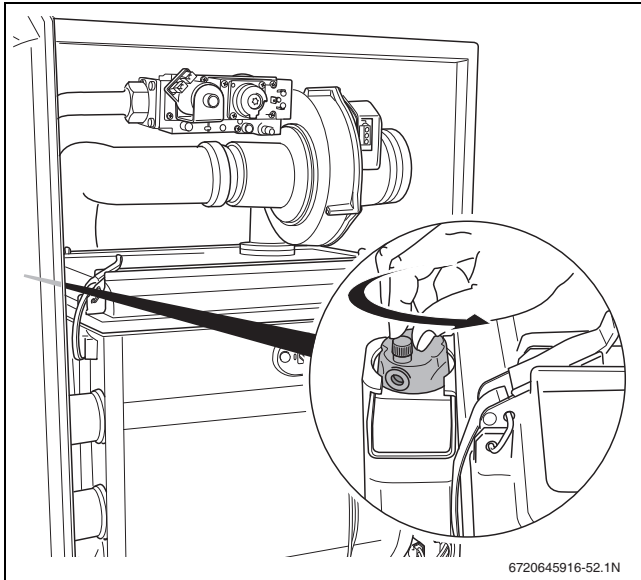

Fig. 55 Opening the automatic air vent
- ▶ Loosen the cap of the automatic air vent (→ fig. 55) by turning $\frac{1}{4}$ rotation counterclockwise.